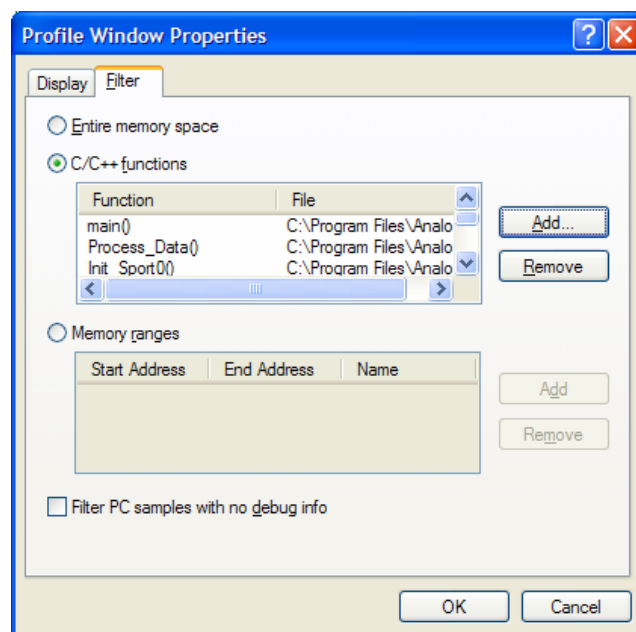

Figure 2. Filter tab
- The Filter tab (Figure 2) allows you to specify what you wish to profile. You can choose to profile the entire memory space,